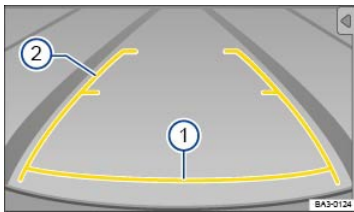

Fig. 151 On the screen: Static orientation lines for the parking space behind the vehicle.
Meaning of the orientation lines on the screen¹⁾ ⇒ Fig. 151 .
- Slowly back up and steer so that the yellow orientation lines lead into the parking space ⇒ Fig. 151②.